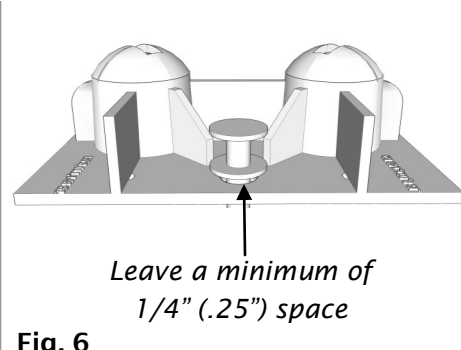

Fig. 6
**LEAVE SPACE** between the head of the Anchor Spike (D) and the top of the Pier (A). (Fig. 6) This provides wiggle room for adjusting the location of the Pier (A) when necessary. (Fig. 7) Level Pier (A) in each direction.